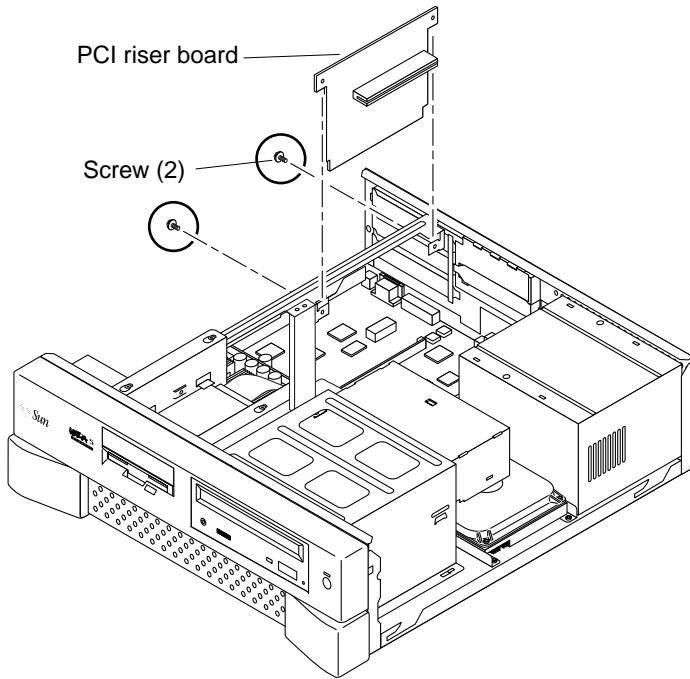

FIGURE 8-6 Removing and Replacing the PCI Riser Board
3. **Remove the PCI riser board as follows (FIGURE 8-6):**
- 1. Replace the PCI riser board as follows (FIGURE 8-6):**